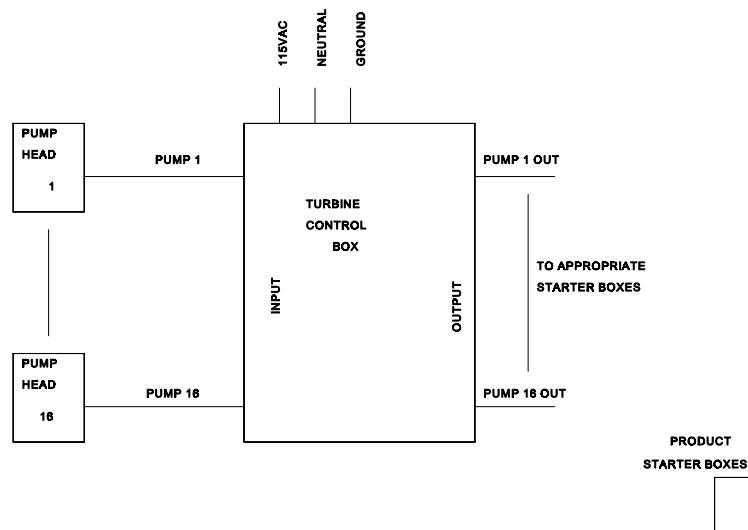

Figure 12: Turbine Relay Box for Kraus
- If submerged turbine pumps are used, install the optional turbine relay box. Refer to Figure 12 below.